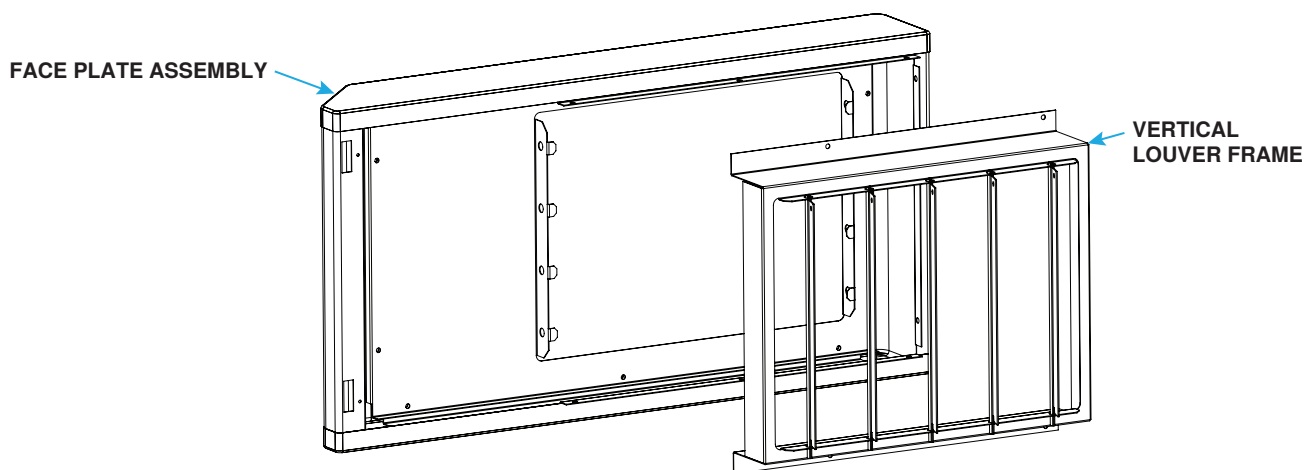

Figure 3. Typical Gas-Fired Unit Heater Face Plate Assembly (with Vertical Louver Frame Shown)
4. Remove face plate assembly (see Figure 3):
5. If installing option CD4 or CD5, install vertical louver frame (see Figure 3):